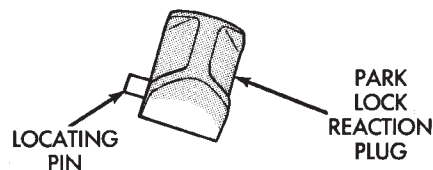

Fig. 228 Reaction Plug Locating Pin And Snap-Ring
(1) Position park pawl and spring in case and install park pawl shaft. Verify that end of spring with 90° bend is hooked to pawl and straight end of spring is seated against case.
(2) Install pawl shaft retaining bolt. Tighten bolt to 27 N·m (20 ft. lbs.) torque.
(3) Install park lock reaction plug. **Note that plug has locating pin at rear (Fig. 228). Be sure pin is seated in hole in case before installing snap ring.**